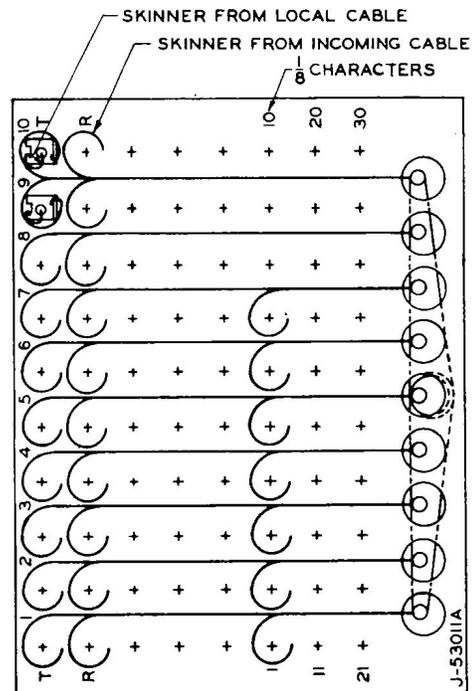

Fig. 4 — 103A Key Equipment Terminal Panel (Cable Arrangement)
3.02 The local cable for the key unit is looped behind the face equipment with sufficient slack to permit removal of the entire unit from the supporting framework. This cable is terminated on the terminal panel which is above the key unit in a readily accessible position. The cable ends are terminated as shown in Fig. 4, while the cable form is brought out through the knockout provided in the side panel of the key box. The cable is normally brought out from the right side so that additional units may be added to the left of the initial unit without disturbing existing cabling.